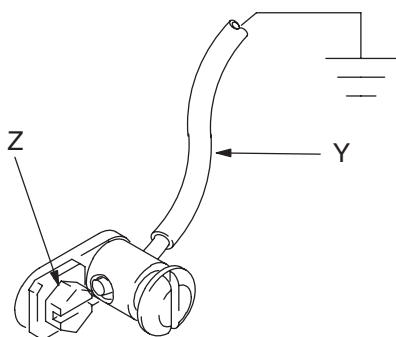

FIG. 1
- Pump: Use a ground wire and clamp as shown in FIG. 1. Remove the ground screw (Z) and insert through the eye of the ring terminal at end of ground wire (Y). Fasten the screw back onto the pump and tighten securely. Connect the other end of the ground wire to a true earth ground. To order a ground wire and clamp, order P/N 222011.